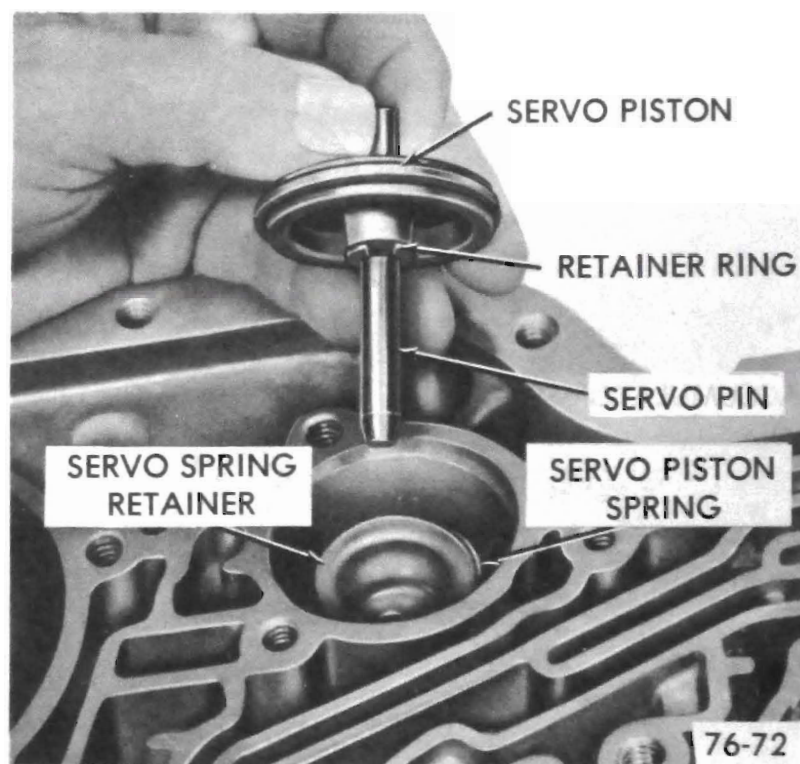

Figure 76-72
9. Remove front servo piston, retainer ring, servo pin, spring retainer, and spring from transmission. See Figure 76-72.